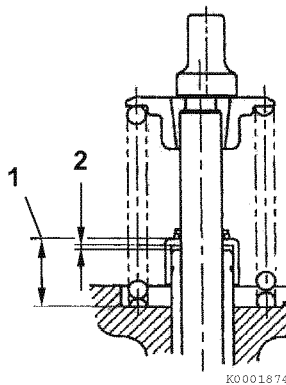

Figure 6-68
2. Measure the distance (1, **Figure 6-68**) from the cylinder head to the valve stem seal to ensure proper clearance (2, **Figure 6-68**) between the guide and seal. See *Intake/Exhaust Valve and Guide* on page 6-5.